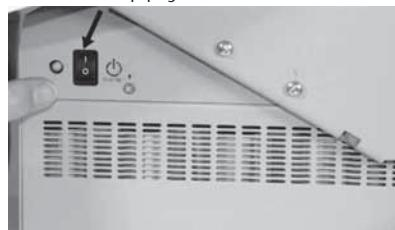

Figure 3: Power Supply Switch Down to Standby
2. The Normal Operation/OFF switch of the Power Supply must be in the Standby (down) position as shown in Figure 3.